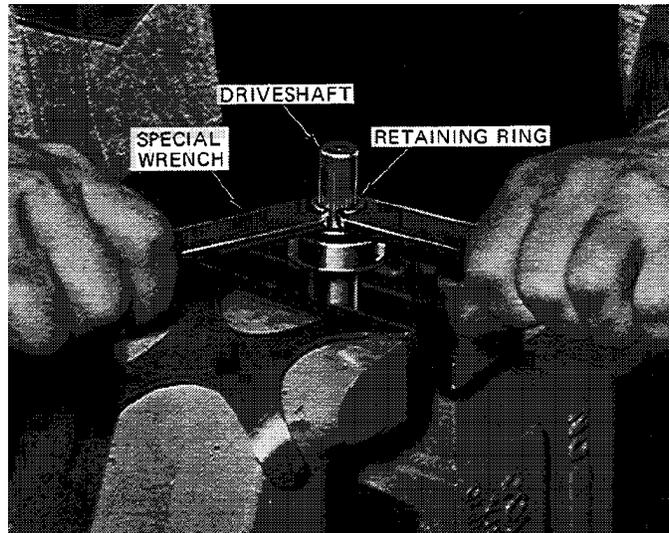

Figure 5-5. Removal of Driveshaft Retaining Ring
1. Remove compensation needle valve (361) from the base.
2. If the driveshaft is of the keyed type, remove nut (372), spacer (373), and key (370).
4. Remove screws (362) and retainer (363).
5. Pull out driveshaft (369 or 374) together with bearing (364).
6. Remove retaining ring (367), if used, as shown in Figure 5-5 and then press the driveshaft out of the bearing.